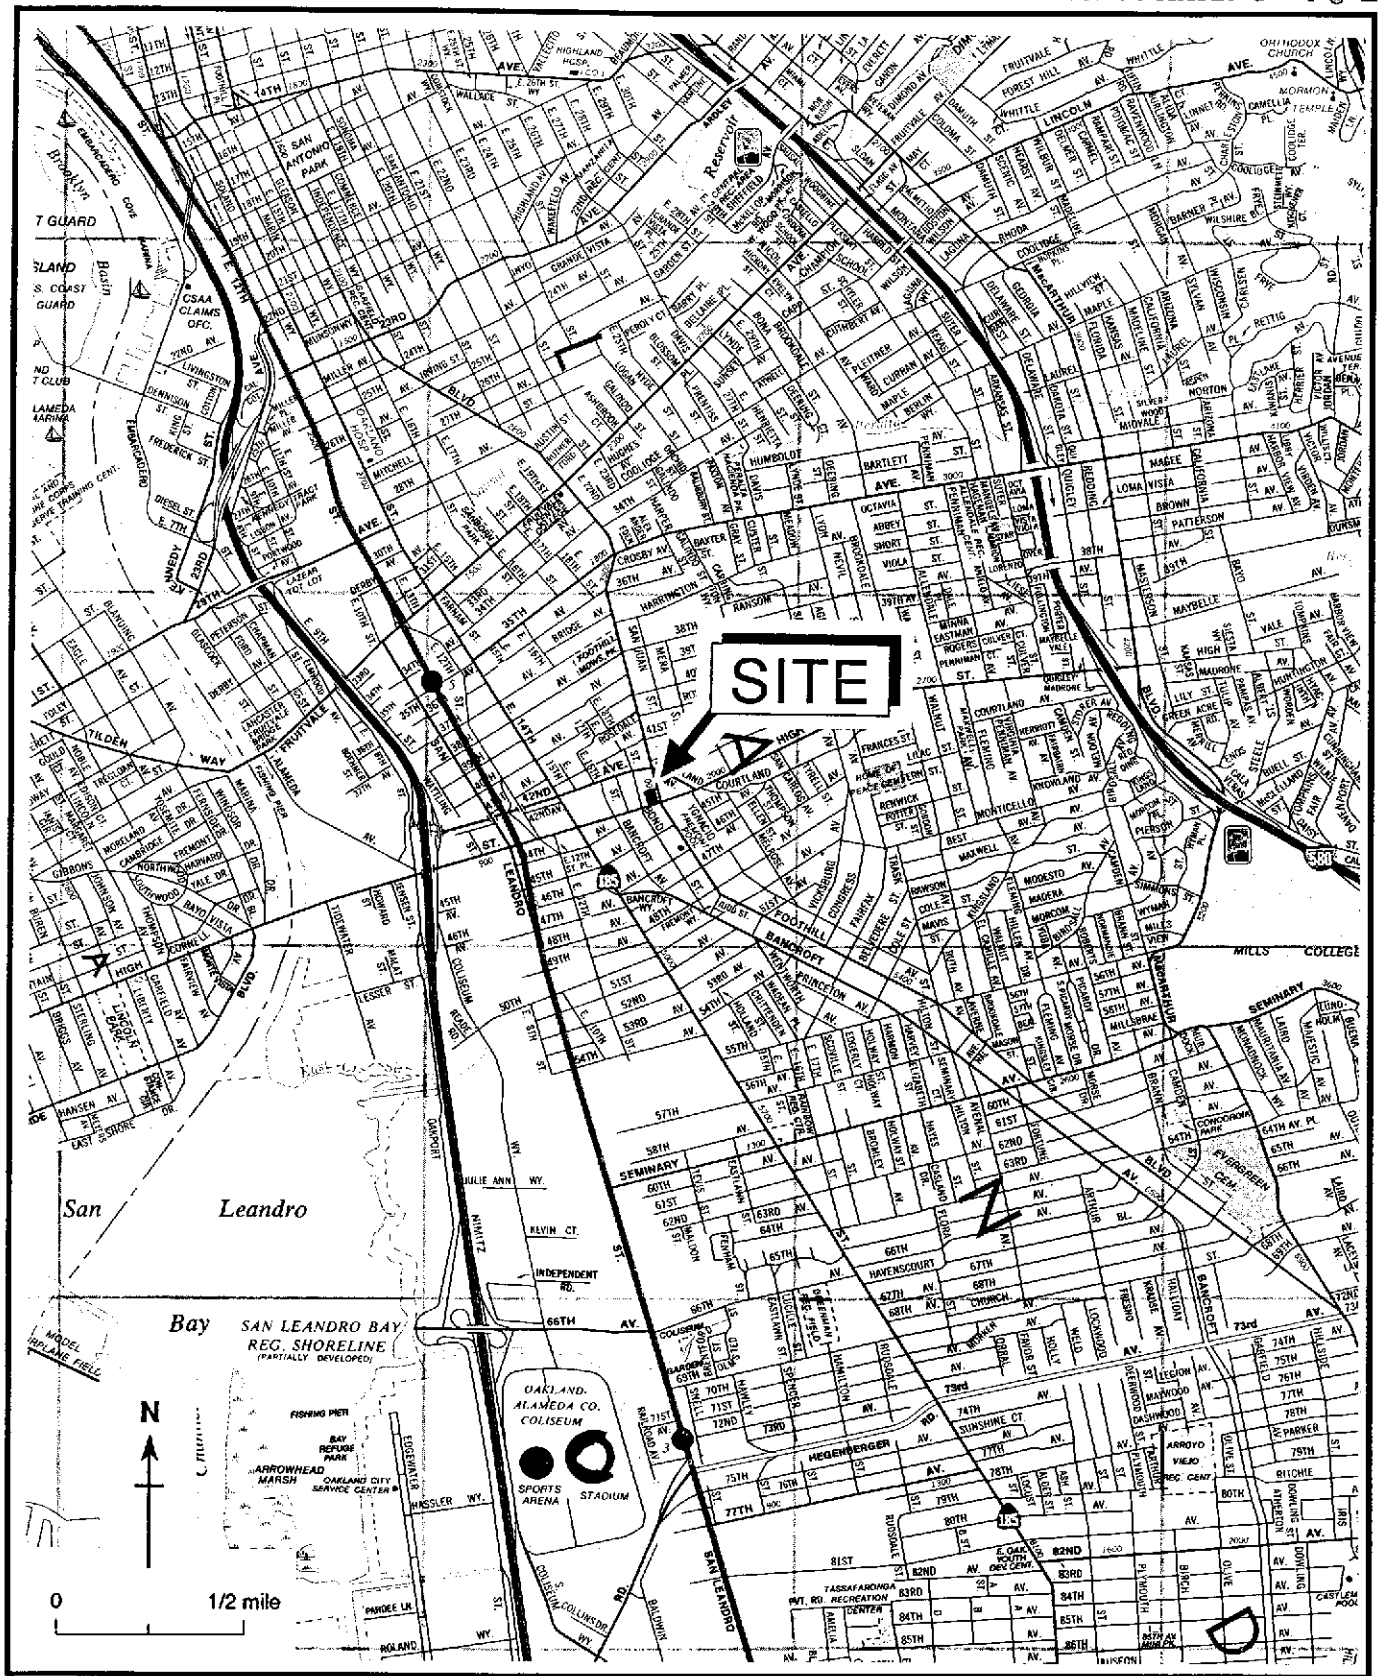

Figure 1. Site Location Map - Chevron Service Station #9-0076, 4265 Foothill Boulevard, Oakland, California
As you requested, Weiss Associates (WA) is providing this Ground Water Monitoring Report for the site referenced above (Figure 1). WA sampled the ground water monitoring wells (Figure 2) on September 19, 1991, in accordance with the requirements and procedures of the California Regional Water Quality Control Board - San Francisco Bay Region and local regulatory agencies.